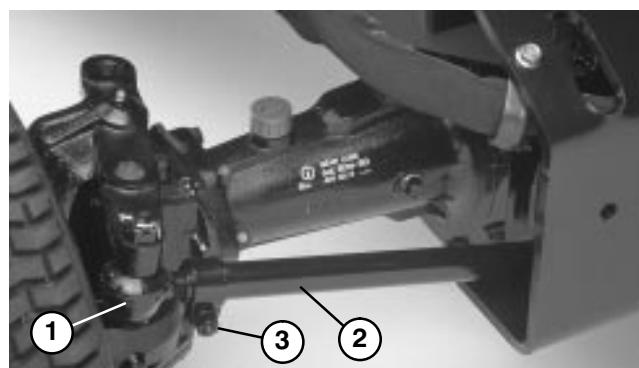

Figure 60
- 2. Remove cotter pin and nut securing one tie rod ball joint to mounting bracket on axle and disconnect ball joint from axle (Fig. 60).
3. Loosen screw on tie rod clamp (Fig. 60). Rotate ball joint in or out to adjust length of tie rod.